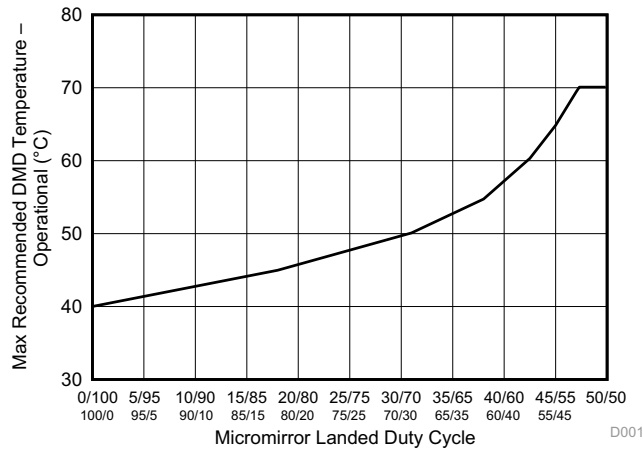

Figure 1. Maximum Recommended DMD Temperature – Derating Curve
- (6) Long-term is defined as the average over the usable life.
- (7) Per Figure 1, the maximum operational case temperature at test points TP1 and TP2 as shown in Figure 9 or Figure 10 should be derated based on the micromirror landed duty cycle that the DMD experiences in the end application. Refer to Micromirror Landed-on/Landed-Off Duty Cycle for a definition of landed duty cycle.
- (8) Between any two points on or within the package including the mirror array.